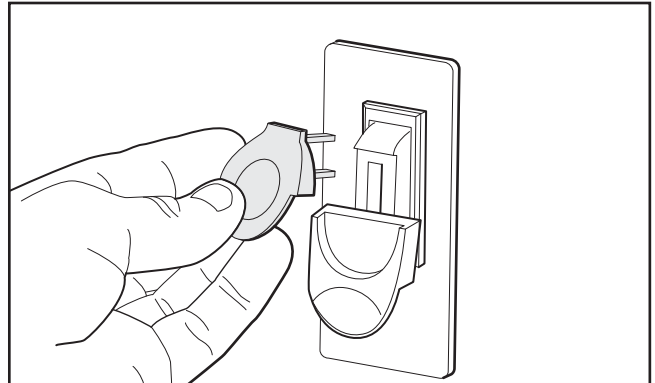

Figure 23. Removing switch key from paddle switch.
5. Remove the switch disabling key, as shown in **Figure 23**.